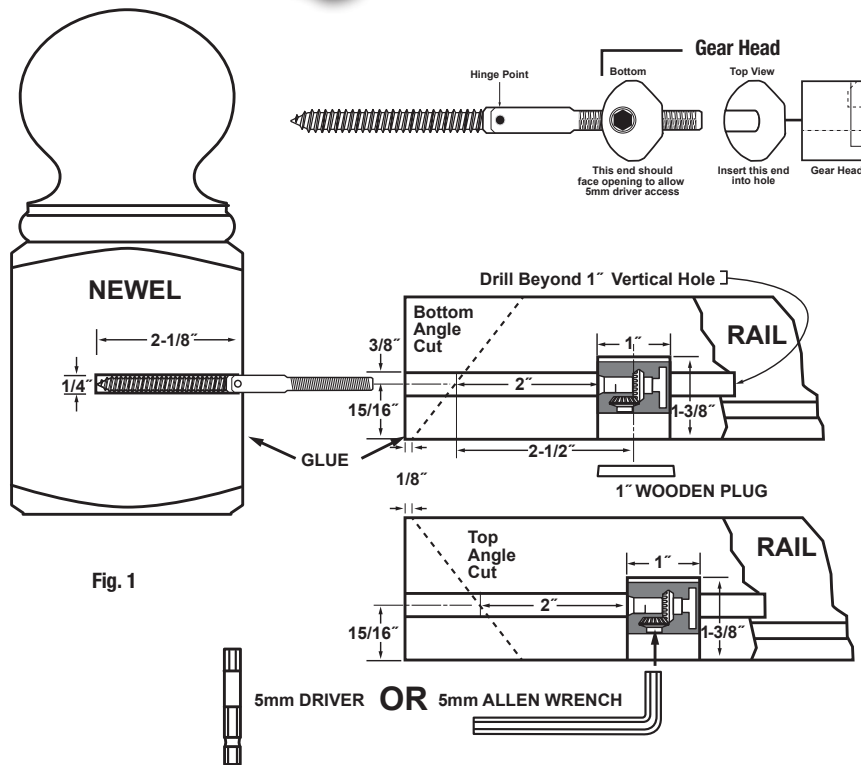

Fig. 1
1. Cut rail 90 degrees square. Then mark proper angle on railing, 1/8" in from the cut. (Fig. 1)
2. Mark center of rail on 90 degree cut, up 15/16" from bottom of rail. (Fig. 1)
3. Drill a 1" diam. hole in bottom of rail on center line 2-1/2" from where angle line and 15/16" dimensions intersect. Hole should be 1-3/8" deep. (Fig. 1)
4. Drill a 3/8" diam. hole in the end of the rail. Hole should be 3 to 3-1/2" deep, drilling past 1" hole. (Fig. 1) **It is very important that the 3/8" hole is drilled before cutting the angle of the rail.**
5. Measure 1/8" in from the end of the 90 degree cut in rail. Mark the correct pitch and start the cut at that point. (Fig. 1)